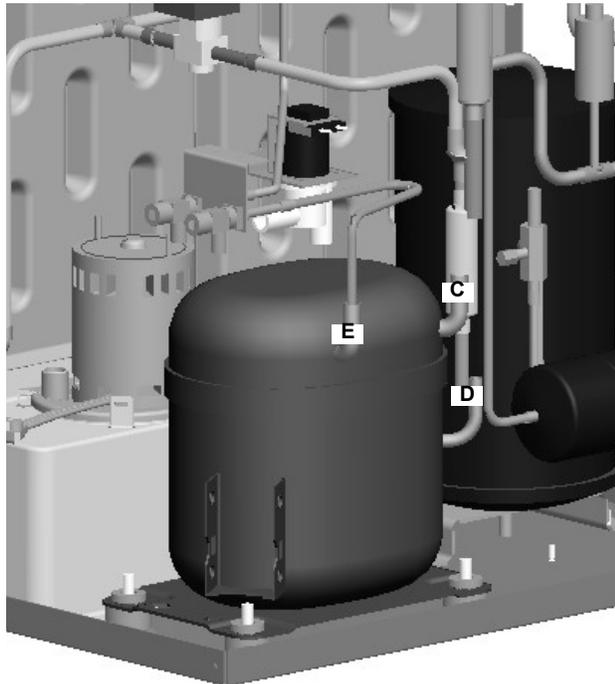

Figure 26.
23. Move the nitrogen feed to the low side service valve. Remove the insulation from the suction inlet (C) (Figure 26).
24. Remove the suction line inlet and the compressor discharge line (D) from the compressor.
25. Remove the low side service valve line (E) from the compressor.